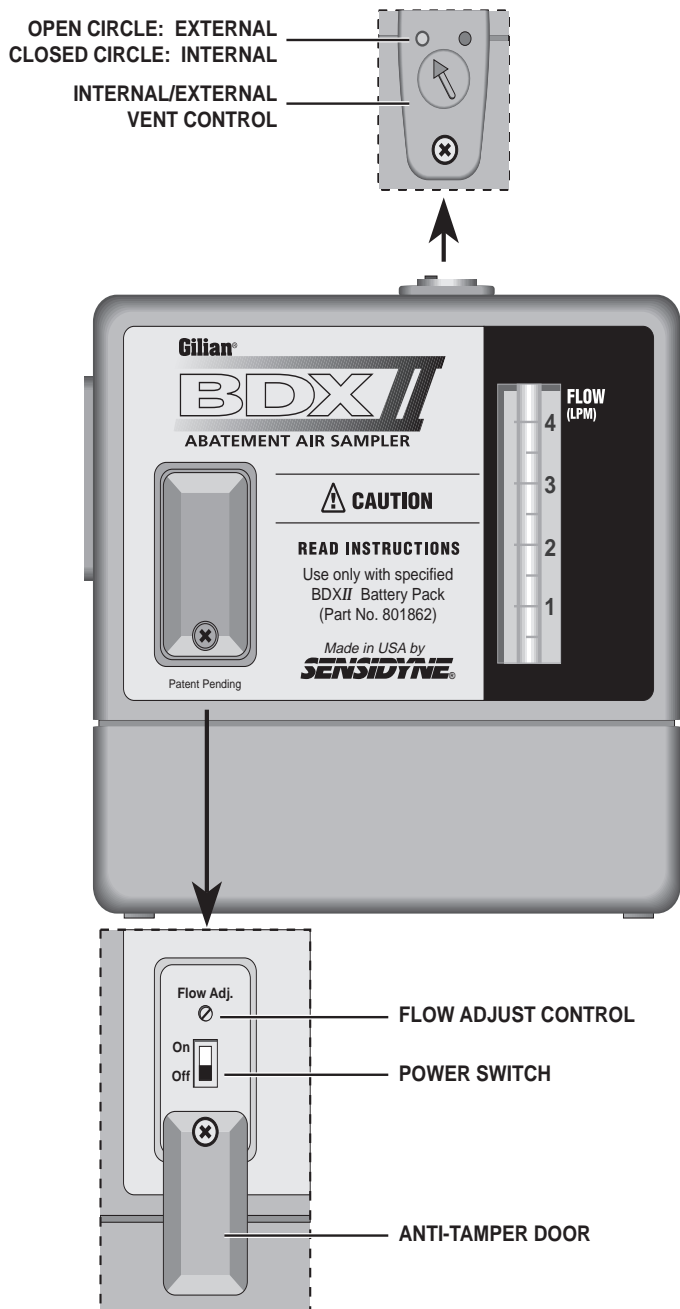
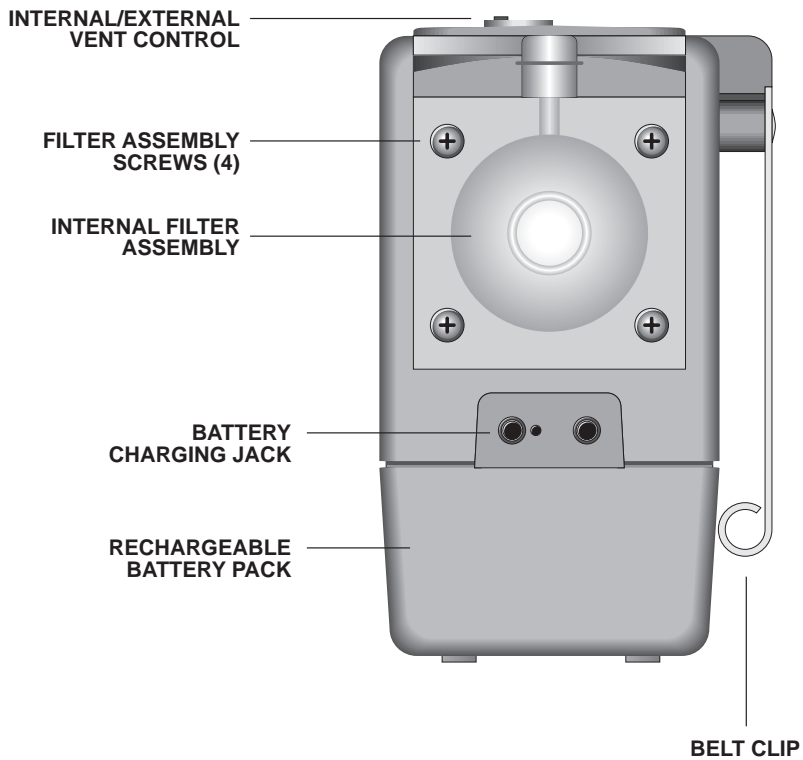

Figure 1.1
Figure 1.2
The BDXII Abatement Air Sampler consists of a pump contained in a Lexan plastic case, electronic flow control system, a pneumatic system, and a rechargeable battery pack. The BDXII is shown in Figure 1.1 and Figure 1.2.
- 2) Using a small Phillips screwdriver, back out the holding screw just enough so the anti tamper cover plate can be rotated 180°. This exposes the On/Off switch and the flow adjust screw (See Figure 1.1).